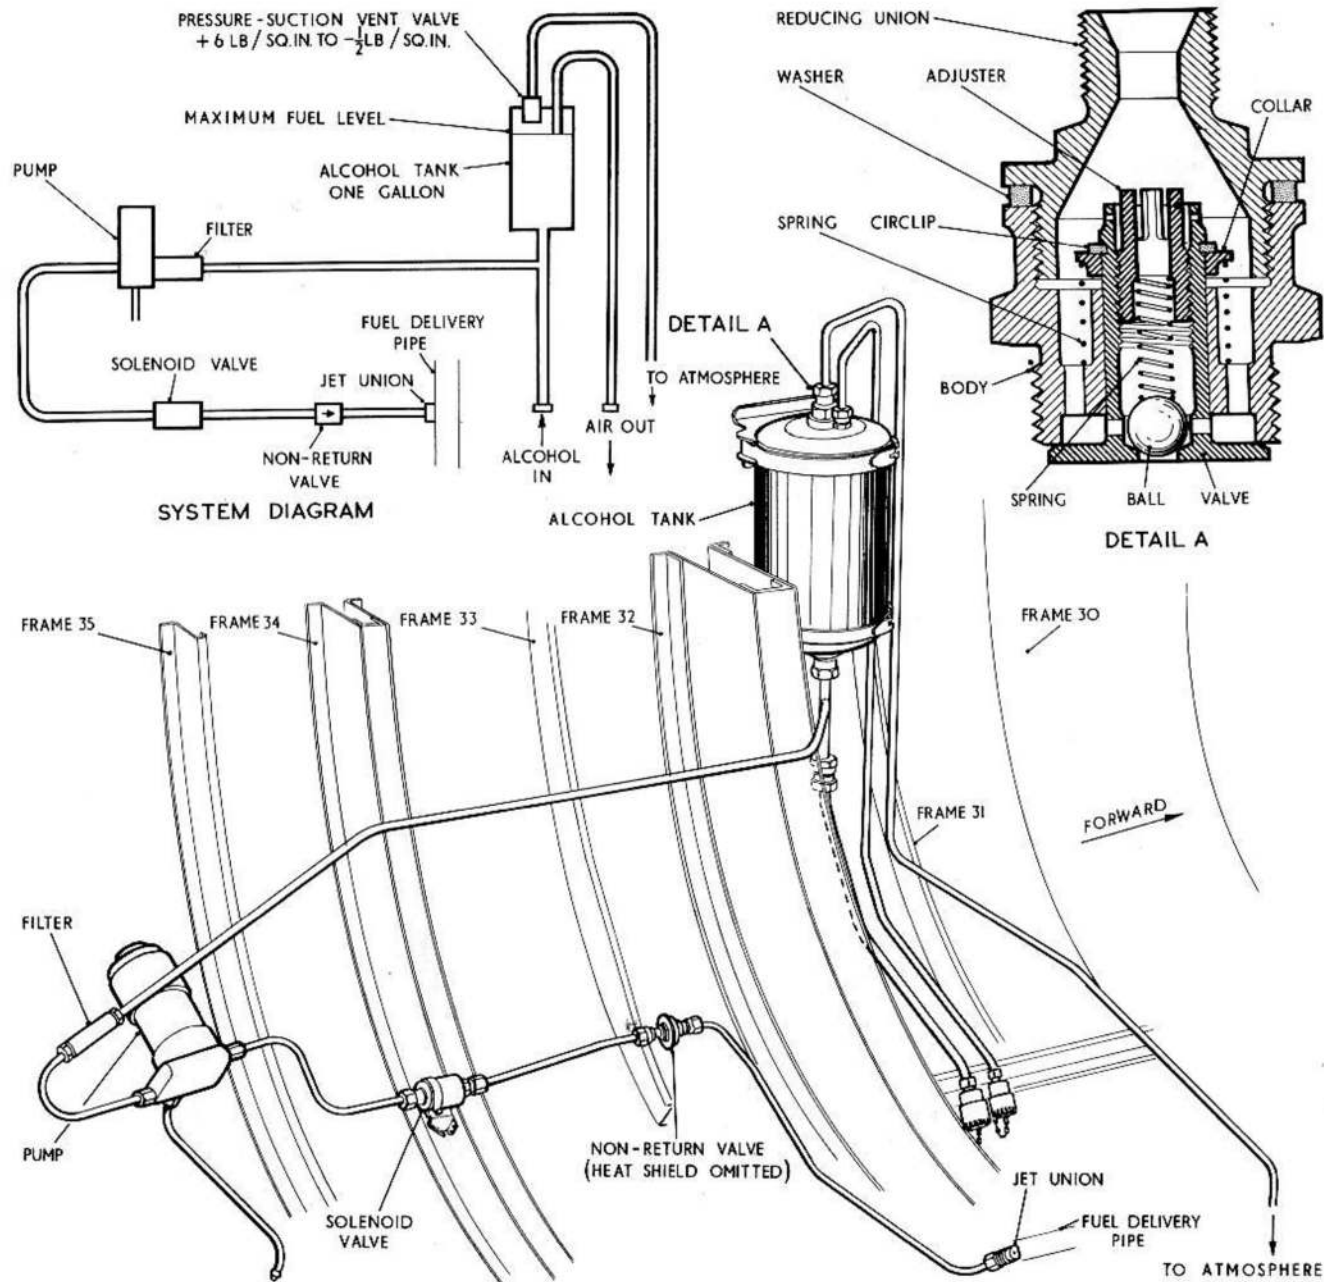

FIG. 8 FUEL FILTER DE-ICING SYSTEM
Fuel filter de-icing (fig.8)
27. The fuel filter de-icing tank is of stainless steel, partly for its non-corrodible properties but mainly to increase the fire resistance of the system as it is mounted in the engine bay. The tank is provided with a suction and pressure relief valve (fig.8). The valve opens at less than $\frac{1}{2}$ lb. per sq.in., suction and at 6 lb. per sq.in. pressure, the pressure setting being to prevent excessive alcohol loss due to boiling. A Plessey priming pump Type F.P.3 Mk.3 is used in the installation and to ensure an adequate flow of de-icing fluid against the